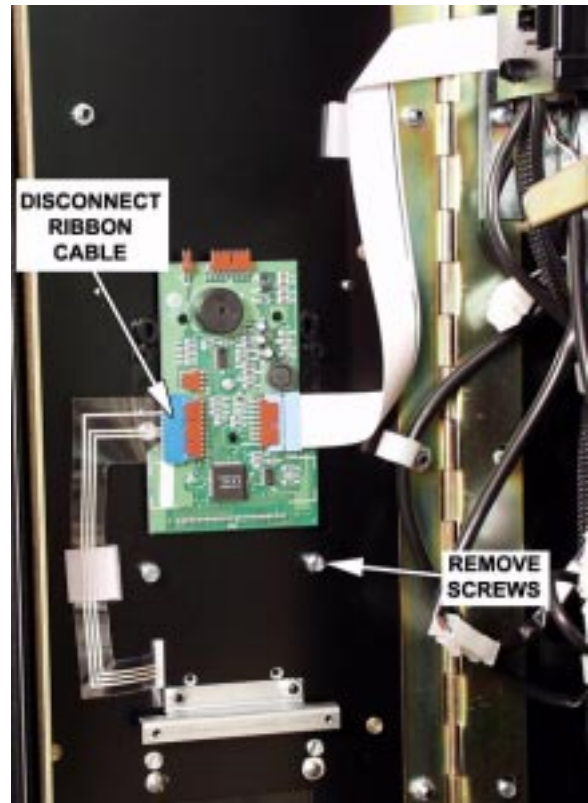

Figure 30
2. Disconnect the ribbon cable from the display PCB assembly (figure 30).